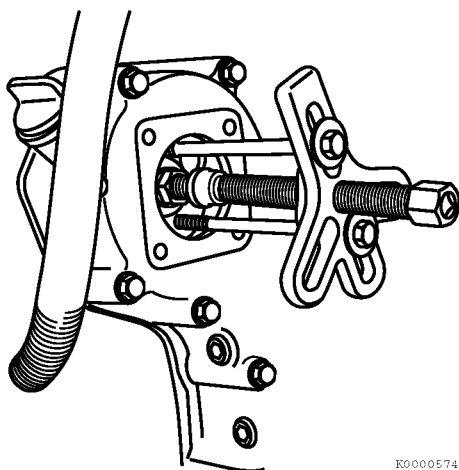

**Figure 7-16**
- On TNV94 - 106 model engines, the idler gear is visible. Make a reference mark (Figure 7-16, (1)) across both the fuel injection pump drive gear and the idler gear.